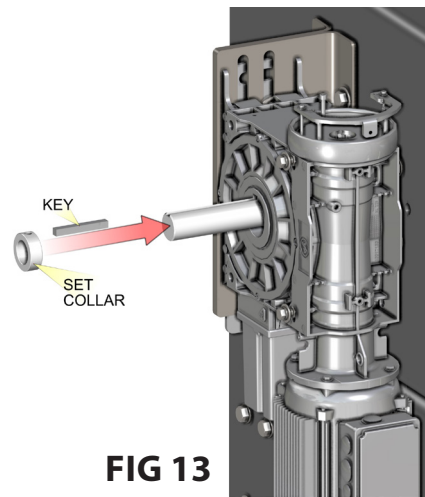

FIG 13
- Insert the key into the keyway. Slide set collar onto shaft and up against the motor. Tighten the set screws in the set collar. See **FIG 13**.